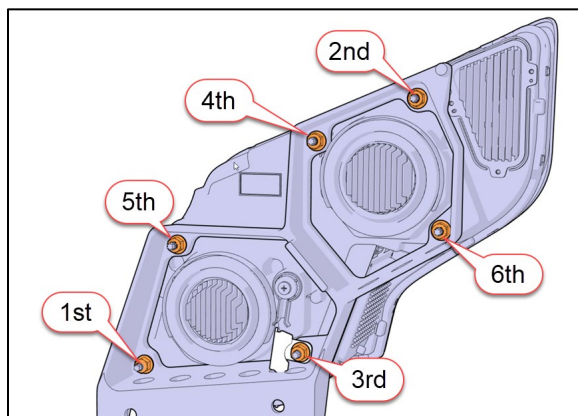

FIGURE 96
6. Mount the new headlamp module to the support. Tighten the six (6) nuts by hand only.
7. Perform final nut tightening in accordance with the tightening sequence (Figure 96).